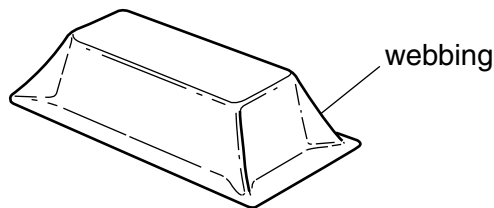

Fig. 3
- (c) Fig. 3 shows a fault known as ‘webbing’ that can occur during vacuum forming.